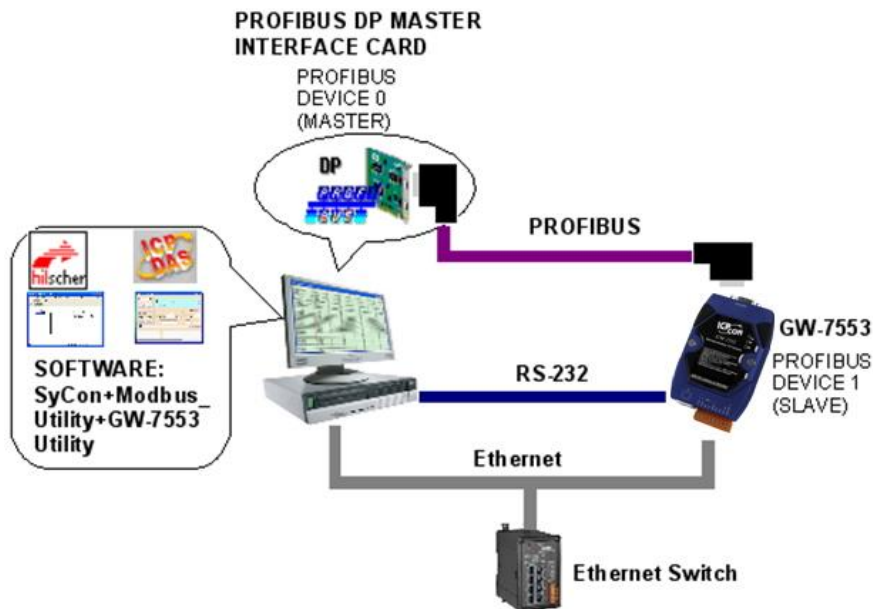

Figure 77 Wiring diagram between PC and GW-7553
Step 2: Connect GW-7553 and PC by *Figure 77*.